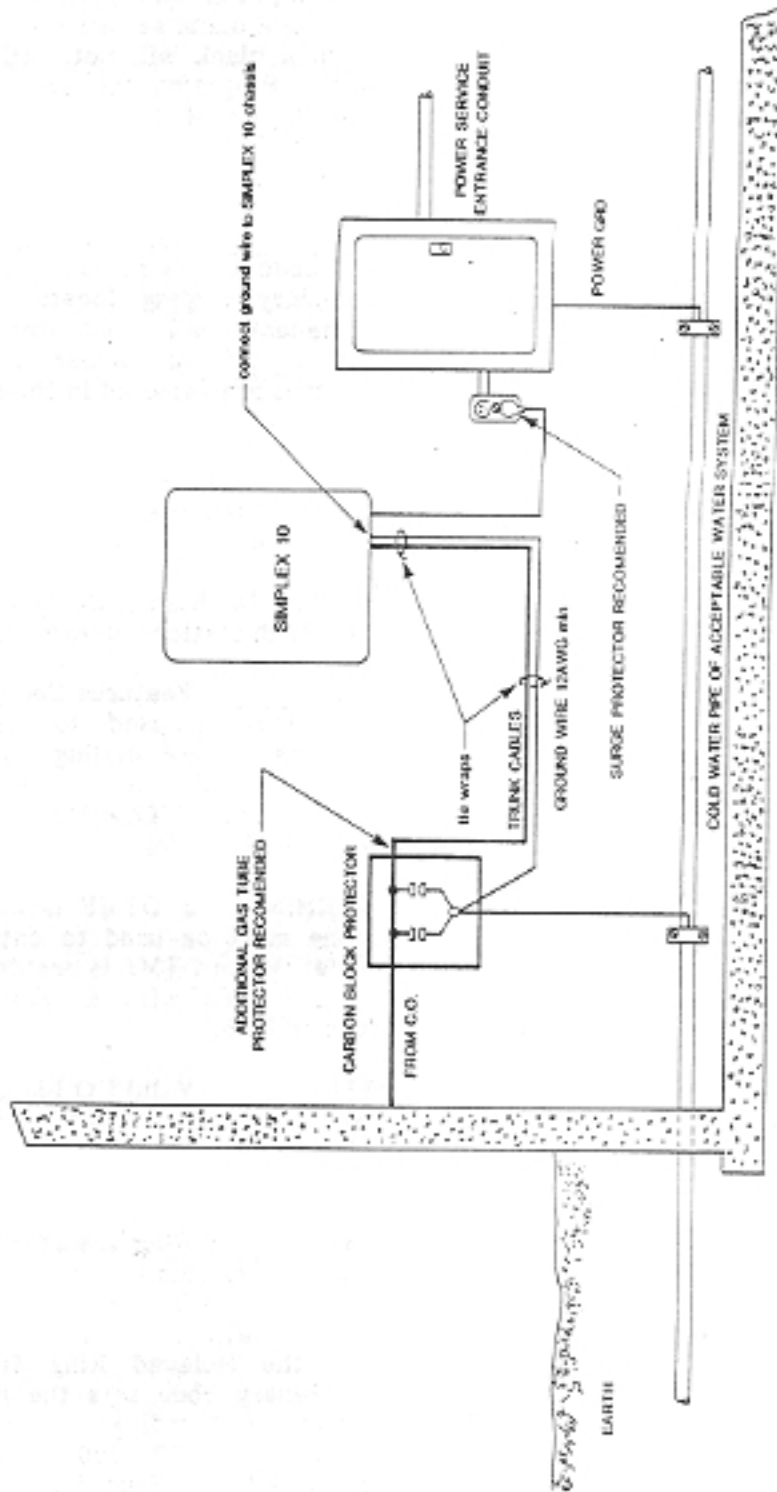

Fig. 7 - - Recommended Protection and Grounding
6.07 See Fig. 7. For a ground connection we recommend connecting a 12 AWG (min.) wire between the ground screw, located on the front panel, to the CO line protector GRD LUG. The lightning protector and power system ground connections should be bonded (connected together) with 6 AWG (min.) wire at the power service ground.
NOTE: A power line surge protector is recommended at the outlet. Refer to Fig. 7